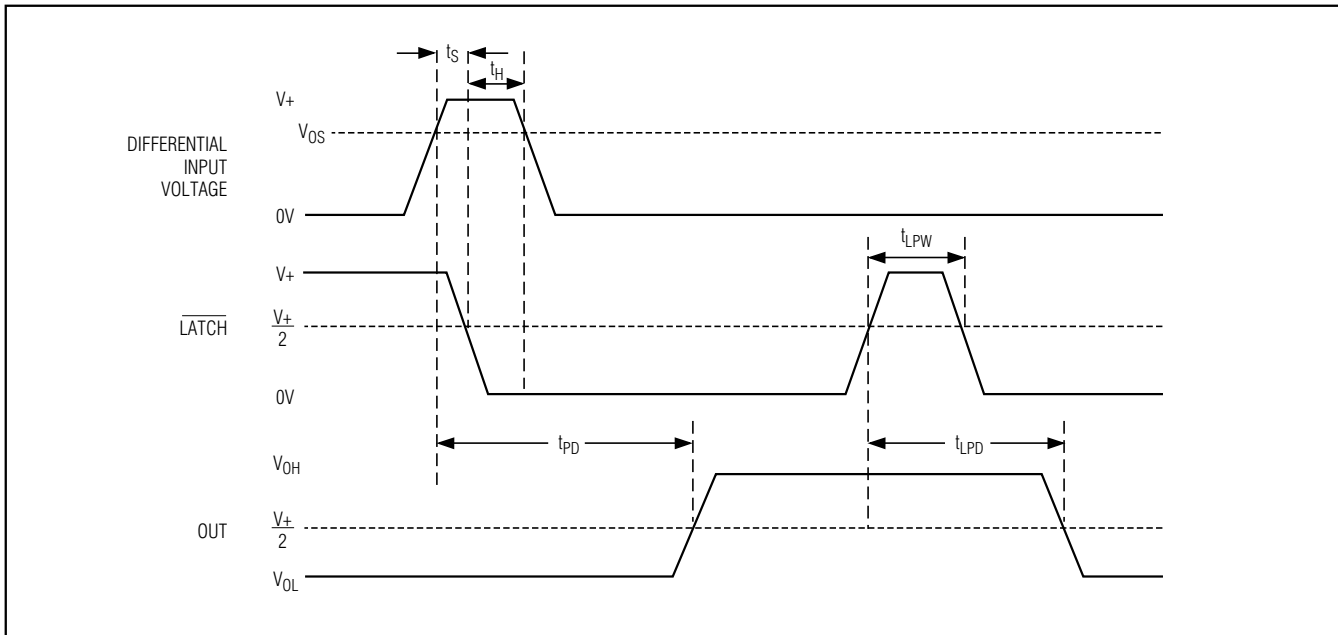

Figure 2. MAX941 Timing Diagram with Latch Operator
- Note 8:** Parameter is guaranteed by design and specified with V_{OD} = 5mV and C_{LOAD} = 15pF in parallel with 400μA of sink or source current. V_{OS} is added to the overdrive voltage for low values of overdrive (see Figure 2).
- Note 12:** Applies to the MAX941 only. Comparator is active with $\overline{\text{LATCH}}$ pin driven high and is latched with $\overline{\text{LATCH}}$ pin driven low (see Figure 2).
The MAX941 includes an internal latch that allows storage of comparison results. The \overline{LATCH} pin has a high input impedance. If \overline{LATCH} is high, the latch is transparent (i.e., the comparator operates as though the latch is not present). The comparator's output state is stored when \overline{LATCH} is pulled low. All timing constraints must be met when using the latch function (Figure 2).